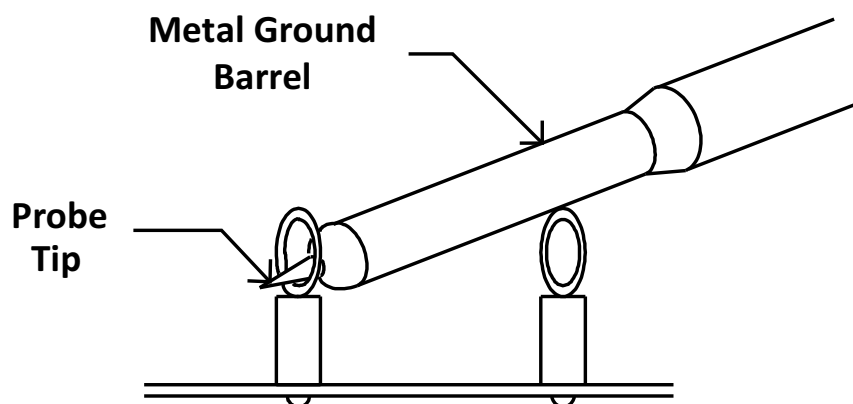

Figure 6-2. Tip and Barrel Measurement
**Oscilloscope:** An oscilloscope is recommended for measuring output noise and ripple. Output ripple must be measured using a tip-and-barrel method or better as shown in Figure 6-2. The scope must be adjusted to 20-MHz bandwidth, AC coupling at 50 mV/division, and must be set to 1  $\mu$ s/division.